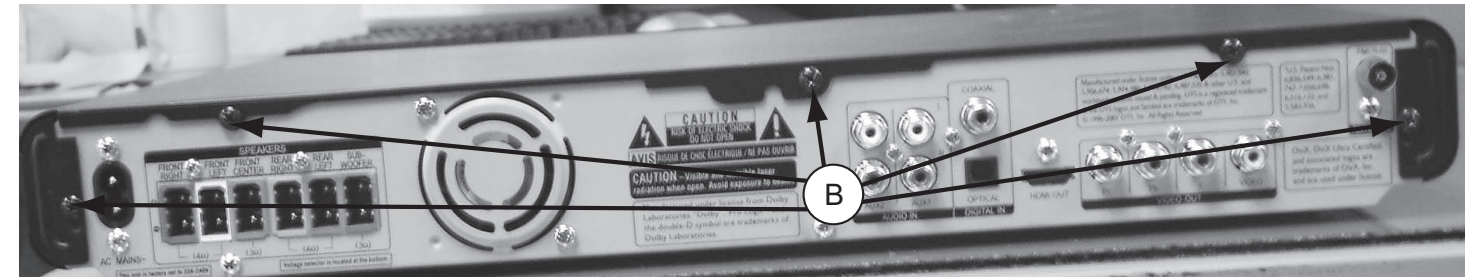

Figure 5
- 5 screws "B" at the back panel as shown in figure 5.